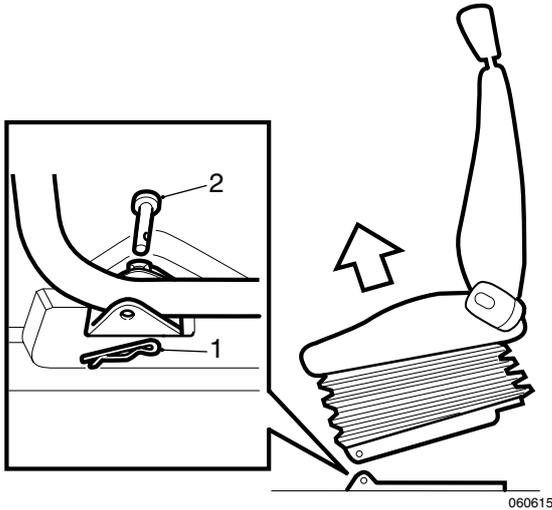

Fig.2 Removing Seat
2. Remove the 'R' clips (fig.2, 1) at the front mounting brackets, and pull out the pins (2) to release the seat.